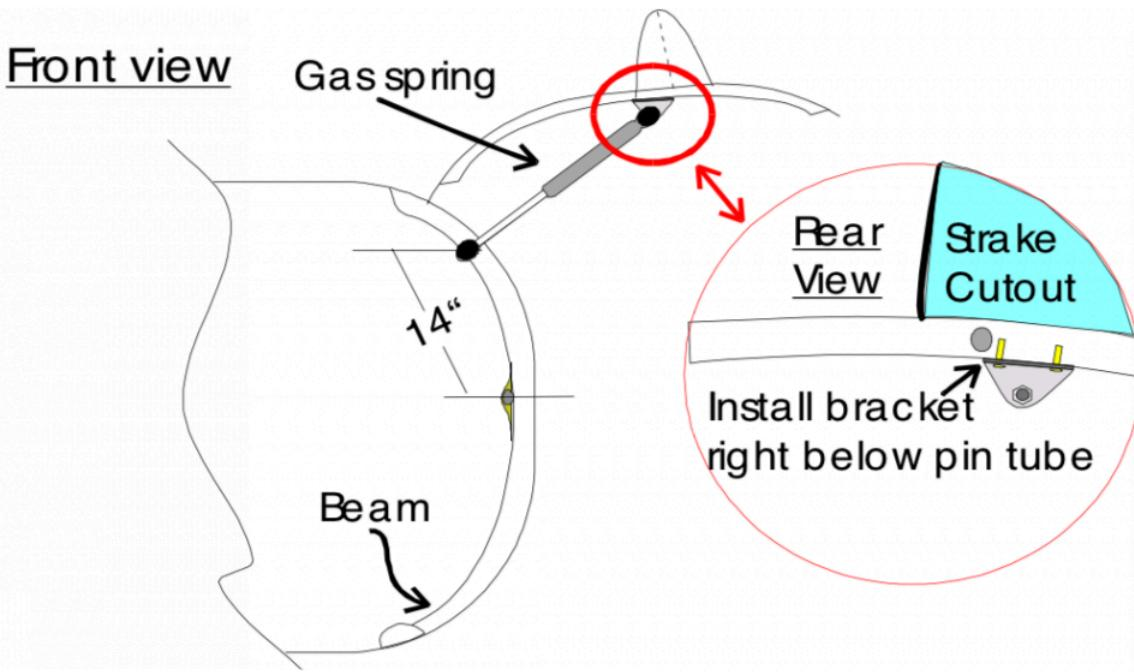

Figure 5-21. Door Gas Spring Installation
- ___ Pop off the black plastic caps off the ends of the gas springs. Snap the spring over the ball ends in the orientation shown in figure 5-21. Replace the black caps.